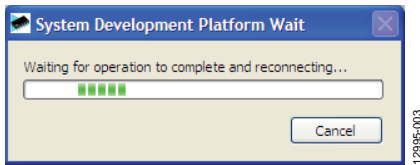

Figure 3. Connection Message
3. Click **Start > All Programs > Analog Devices > AD5675/AD5675R > AD5675/AD5675R Evaluation Software**. While the software connects to the evaluation board, the message in Figure 3 displays.